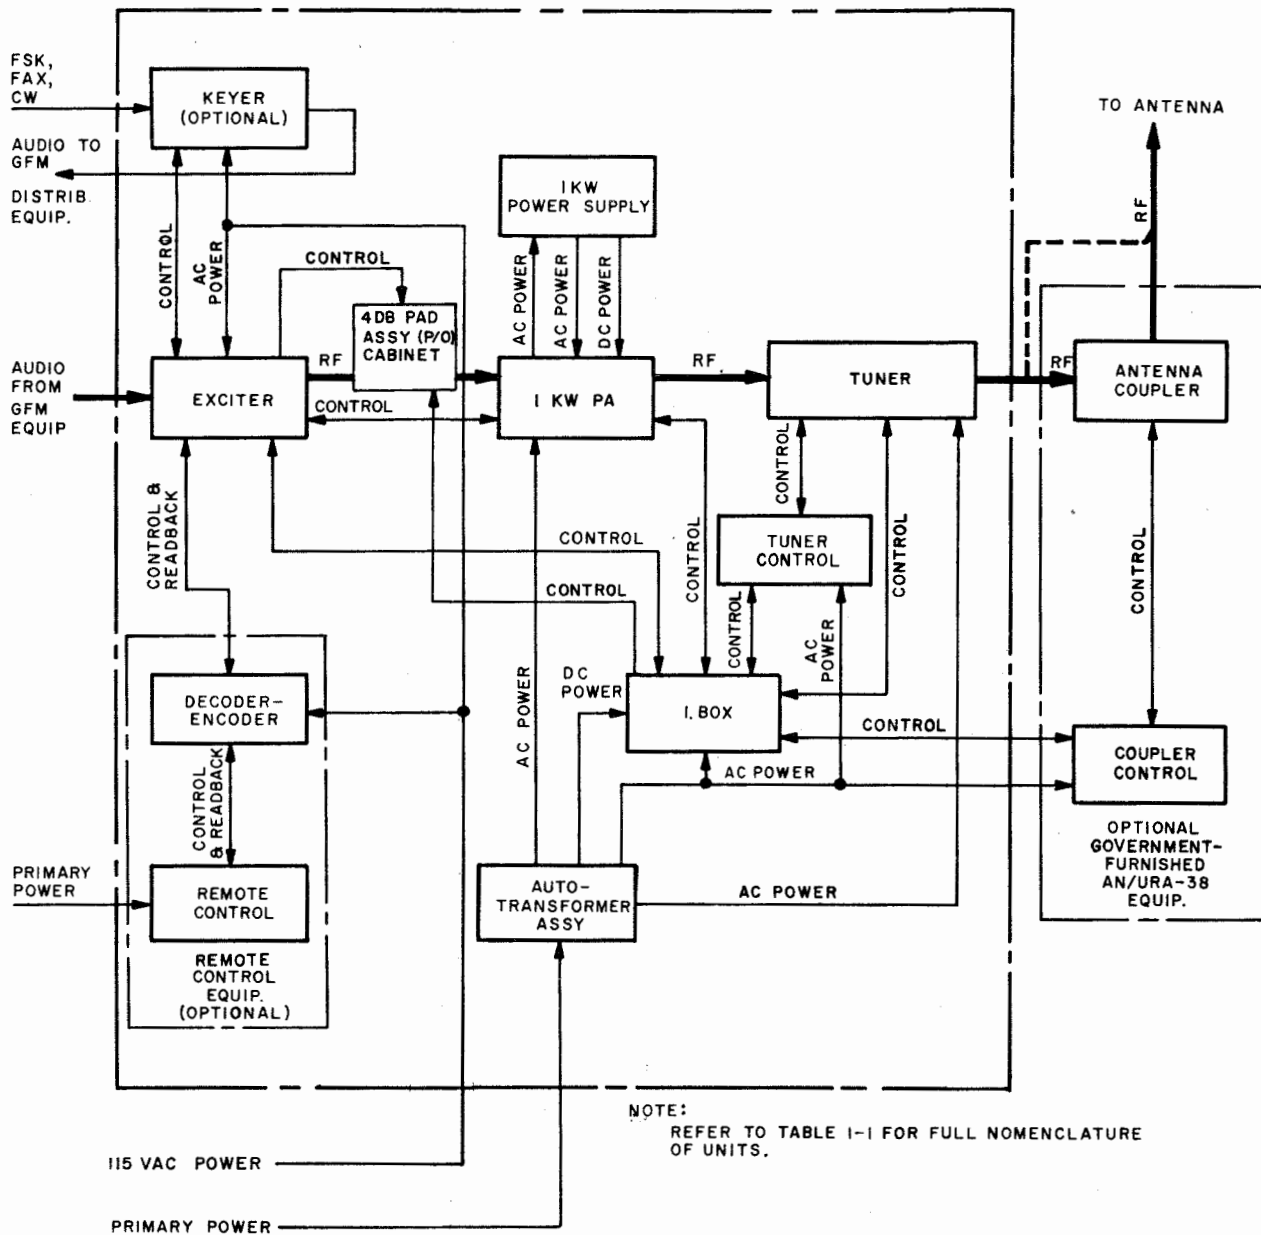

Figure 4-1. Radio Transmitting Set AN/FRT-83(V), Overall Functional Block Diagram
4-8 PROBABLE FAULTY CIRCUIT. The next step in a logical troubleshooting procedure is to make a tentative decision, based on results of the symptom investigation, as to the most likely circuit at fault. The decision should be based upon the trouble symptom and a thorough knowledge of the equipment circuits, and should be limited to those circuits which, if defective, could probably cause the trouble. The functional block diagram (figure 4-1) together with the over-all functional descriptions should be used to aid in the determination of the possible faulty circuit.
4-13 RADIO TRANSMITTING SET AN/FRT-83(V). Figure 4-1 illustrates the functional interrelation of units in a typical AN/FRT-83(V) configuration.